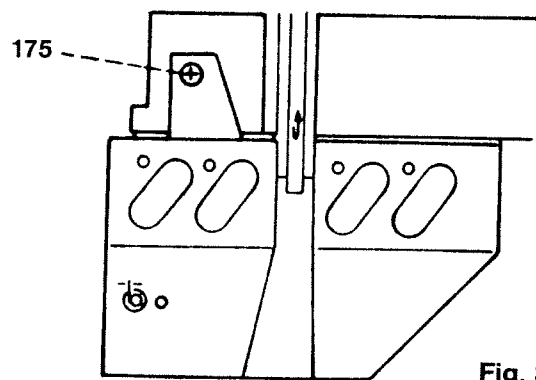

Fig. 32a
- Unscrew Philips screw 175 at the control panel (Fig. 32a).
- Insert the new control panel upwards (Fig. 32a).